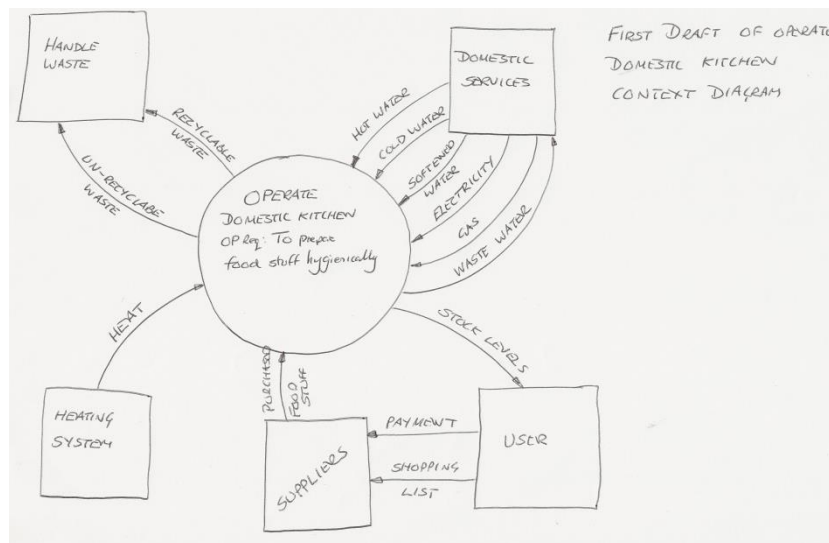
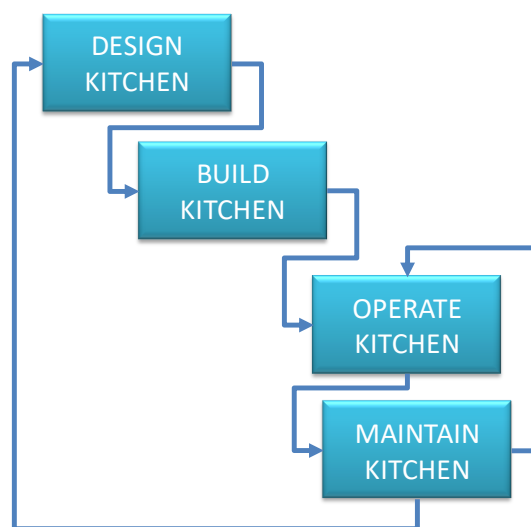

Figure 6: First Draft of a CONTEXT DIAGRAM of the Operation of a Domestic Kitchen
Figure 7: Life-Cycle of a Domestic Kitchen
Starting a model is often the hardest thing! As humans we have a desire to “get it right” and will even shy away from situations in which we are unlikely to get it right first time. Functional Modelling often inflicts this dilemma. The solution is to “have a go”. Figure 6 shows the first draft of a CONTEXT DIAGRAM for the operation of a domestic kitchen. It has the following Characteristics:
In drawing Figure 6, a number of decisions were taken in order to progress. The first was to decide exactly what aspect of the kitchen to model. Like all systems, a kitchen has a life-cycle, with a number of distinct phases; Design, Build, Operate and Maintain, is one possible breakdown as shown in Figure 7⁴.
It follows from Figure 7 that it is possible to model the complete life cycle of the kitchen. It is also possible to construct models for each of the four phases identified. This is a general observation: if a complete understanding is required, several models will have to be developed. Often which aspect to model depends upon the viewpoint? If I was a Kitchen Installer, then the focus would be on the box “BUILD KITCHEN”. If I ran a repair business then the “MAINTAIN KITCHEN” would be appropriate. Interesting, however, the “OPERATE KITCHEN” is critical to all of the life-cycle phases. If I am a kitchen designer, builder, or maintainer, I have to know something about the *prime system*: the kitchen itself. Accordingly, Figure 6 the first draft CONTEXT DIAGRAM is concerned with the operation of the kitchen.
Returning to Figure 6, there are several features worthy of note at this point. In no particular order:
- It is an abstract representation not a physical model. For example the USER is an integral element of the system and will therefore have multiple instances in the model (for example, one of the functions of the kitchen is “prepare meals” this is highly likely to involve the user in some way). The USER also at times is external to the system. For example on Figure 6 there is the following: